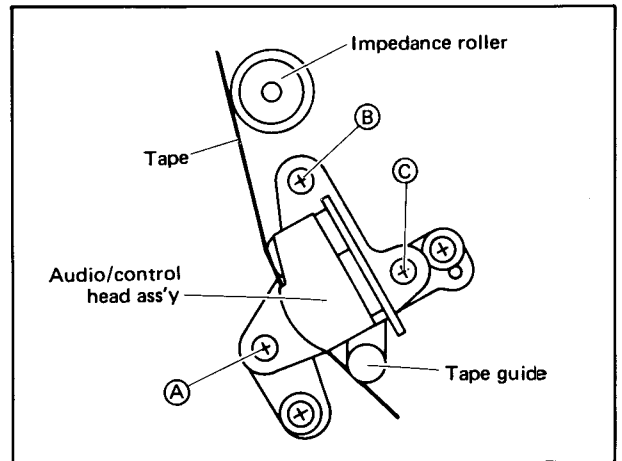

Fig. 4-54 A/C head height adjustment
3. Adjust screw (B) (shown in Fig. 4-54 for both maximum output levels and absence of phase difference between CH-1 and CH-2.